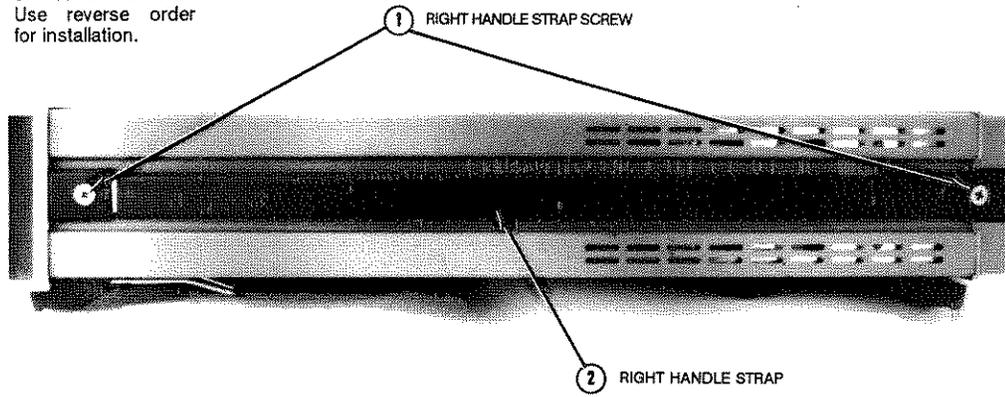

Figure 3-1. Right Side Handle Removal/Installation
The label numbers in Figures 3-1 to 3-6 show the order of cover removal. Use reverse order for installation.
3. Refer to Figure 3-1. Turn the instrument so its right side (as seen from the front) faces you.
18. Refer to Figure 3-1. Turn the instrument so its right side faces you.